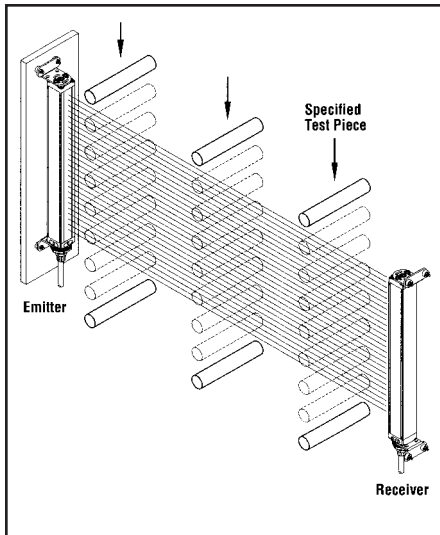

Figure 29. Use of test piece in trip test
- b) With the guarded machine at rest, pass the specified test piece (supplied with the control box) downward through the defined area at three points: close to the receiver column, close to the emitter column, and midway between the emitter and receiver columns (Figure 29). In each case, the red indicator must come ON and the green indicator must go OFF and remain OFF for as long as the test piece is within the defined area. If the green indicator comes ON at any time when the test piece is within the defined area, check for reflective surfaces, and do not continue until the cause is discovered and the situation is resolved.
- a) Verify that the MINI-SCREEN System is in RUN mode (green and yellow status indicators ON). See Section 4.3 for Reset procedure; refer to Figure 29.